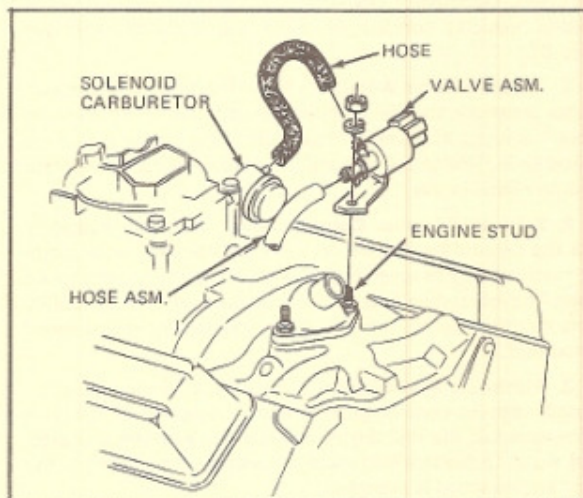

Figure 63 - Throttle Valve
3. Remove the front fiberglass wheel liners (see figure 63).